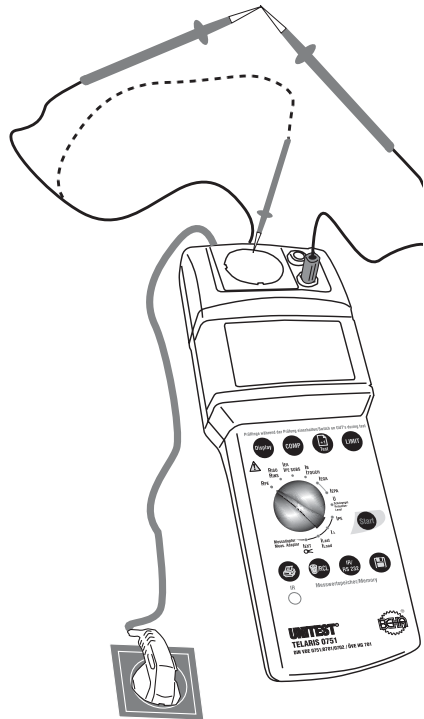

Figure 6.4: Compensation of the test lead resistance
- ▶ Connect the PE test connection 'Probe' (2) or the blue 'PE' socket (5) to the additional test lead and test accessories.
- ▶ Short-circuit the connected test leads in compliance with Figure 6.4, or connect the probe (2) to the PE of the test socket (3) in compliance with Figure 6.4. Ensure a good contact.
- ▶ Turn the 'Measurement function' selection switch (15) to position 'RPE'.
- ▶ Press the key "COMP" (16).
- ▶ Now, the measurement is started. The resistance of the test lead is measured and compensated. The "COMP" symbol (27) is displayed on the LCD. 0,00 is displayed and a signal is audible.